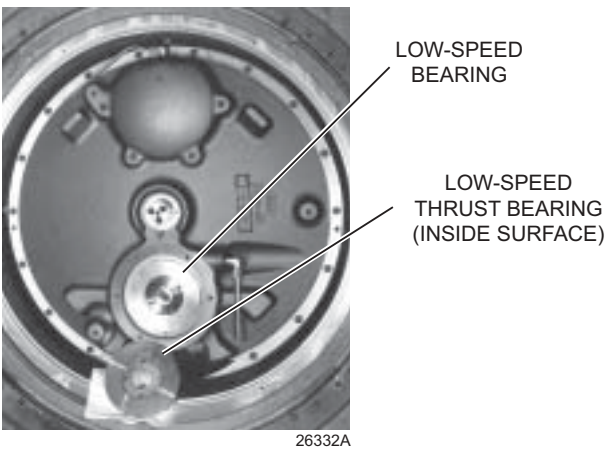

FIG. 32 – LOW-SPEED THRUST COLLAR REMOVED
3. Re-install the shaft locking tool. Remove the socket head cap screws that hold the low-speed thrust collar to the low-speed shaft, and remove the thrust collar (see FIG. 32). Use care when handling so that the surfaces are not damaged.